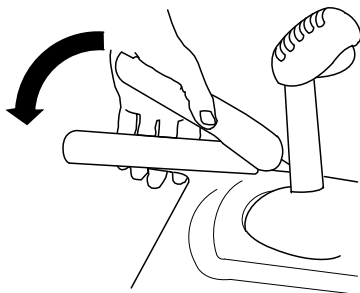

Figure 21
1. To engage the traction drive, squeeze the left (traction) lever to the handgrip (Figure 21).